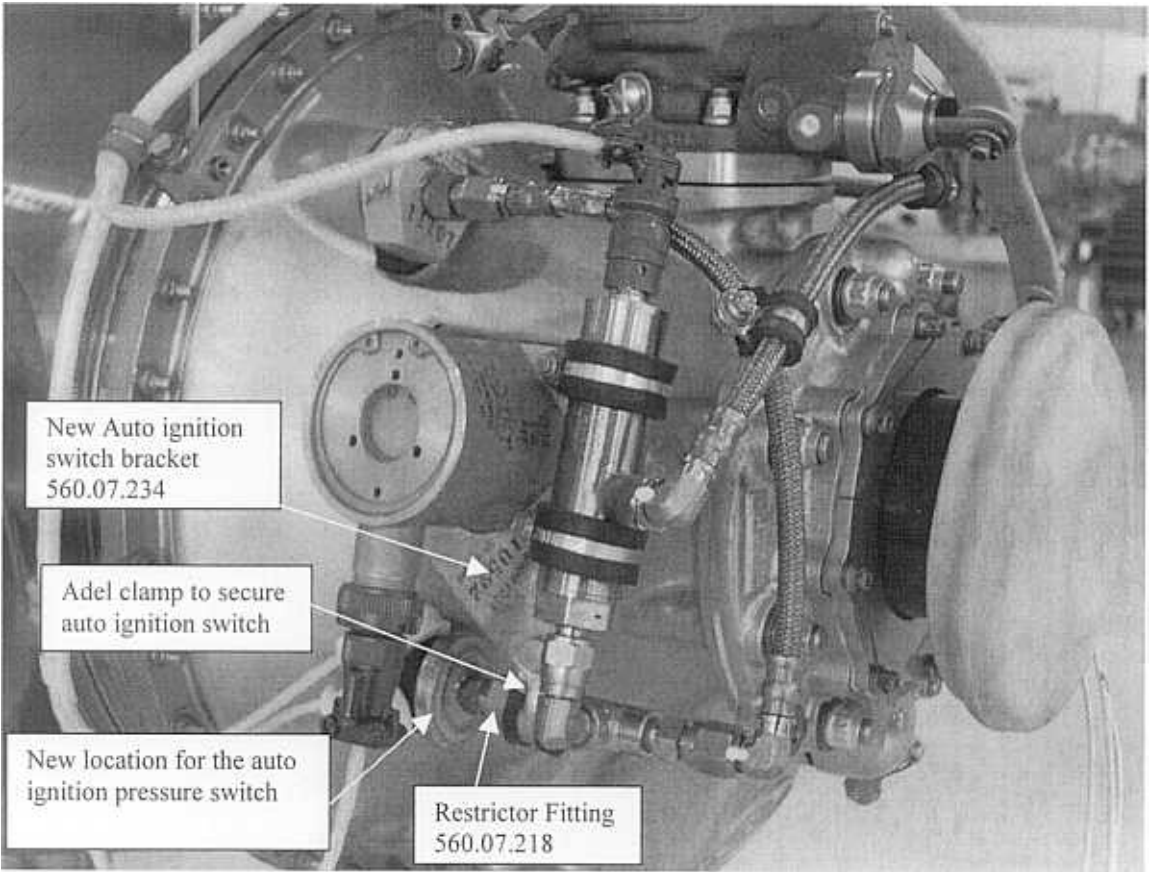

Figure 1
We recommend revising the configuration of the plumbing for the auto ignition pressure switch located of the forward right side of the engine. The new configuration is shown in Figure 1 below. This configuration should help isolate the pressure switch from vibration and result in a longer service life for the pressure switch. This new configuration does require a new bracket to help shock mount the pressure switch and an additional adel clamp and hardware.
- b. Reconfigure the plumbing for the torque transducer and auto ignition pressure switch as shown in Figure 1.